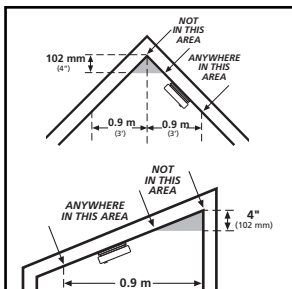
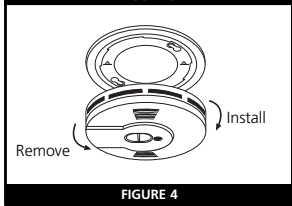

FIGURE 3
FIGURE 4
- Install Smoke Alarms on sloped, peaked or cathedral ceilings at or within 0.9 m (3 ft) of the highest point (measured horizontally). Smoke alarms in rooms with ceiling slopes greater than .3 m in 2.4 m (1 foot in 8 feet) horizontally shall be located on the high side of the room. A row of detectors shall be spaced and located within 0.9 m (3 ft) of the peak of the ceiling measured horizontally (see Figure 3).
- Install Smoke Alarms on tray-shaped ceilings (coffered ceilings) on the highest portion of the ceiling or on the sloped portion of the ceiling within 12" (305mm) vertically down from the highest point (see figure 4).
2. After selecting the proper smoke alarm location as described in Section 1, attach the mounting bracket to the ceiling as shown in Figure 3. For wall mounting see Figure 4. Place the mounting plate on the wall; be sure the "A" line is horizontal (parallel to the floor). Use the screws and wall plugs provided to secure the mounting bracket (use 3/16" drill bit for wall plugs).